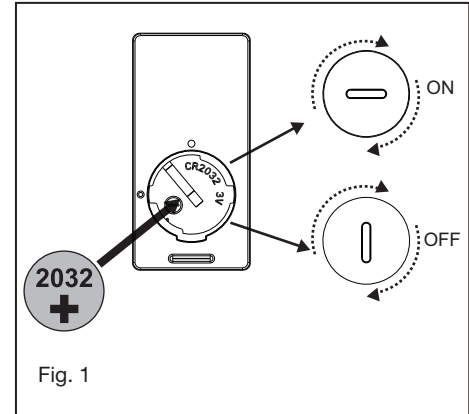

Fig. 1
1. Insert the receiver into the ceiling mounting bracket with the flat side of the receiver facing the ceiling. (Fig. 1) For best performance, make sure the Black Antenna and WIFI Antenna, on the end of the receiver, remains extended and not tangled with any of the electrical wires.
- 1 Move fan into position over the mounting bracket and secure with the 4 screws provided. (Fig. 1)
- 3 Place the key holes on the LED assembly over the 2 screws previously loosened, turn the light plate until it locks in place at the narrow section of the key holes. Secure by tightening the 2 screws previously loosened and the one previously removed. (Fig. 1)
- 1 Select a desired location. Use the wall plate to mark the location of the mounting holes. Plastic wall anchors or mounting screws are needed for this application. (Fig. 1)
Remove the panel from the transmitter and then install one 2032 battery (included). You need to use a coin to open or close the battery cover. To prevent damage to transmitter, remove the battery if not use for long periods of time (Fig. 1)